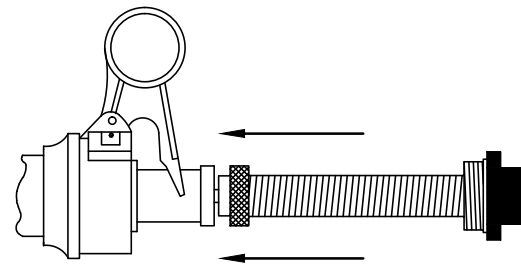

FIGURE 6
- STEP 6 INSERT THIS COMBINATION INTO FUSE HOLDER AND SCREW HOLDER CAP DOWN TIGHT. THE FINAL 1/4 TURN SHOULD BE MADE WITH WITH A WRENCH. (SEE FIG. 6)